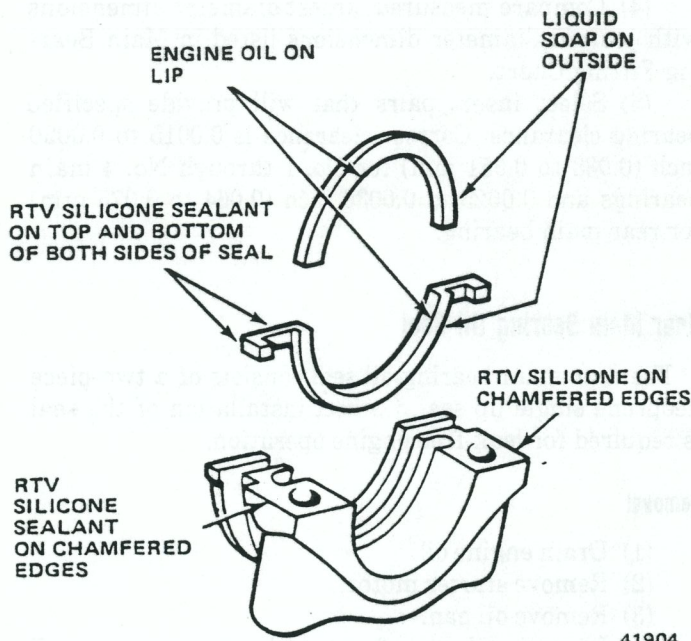

Fig. 1B-150 Rear Main Oil Seal Installation
(1) Wipe crankshaft seal surface area clean and apply light film of oil.
(2) Coat block contact surface area of replacement upper seal half with soap and lip of seal with clean engine oil (fig. 1B-150).
(3) Insert upper seal half into engine block.
(4) Coat both sides of replacement lower seal half end tabs with Jeep Gasket-in-a-Tube (RTV silicone), or equivalent. Do not apply sealer to lip of seal.
(5) Coat outer curved surface of lower seal half with soap and lip of seal with clean engine oil.
(6) Insert seal into cap recess and seat firmly.
(7) Apply Jeep Gasket-in-a-Tube (RTV silicone), or equivalent, to both chamfered edges of rear main bearing cap.